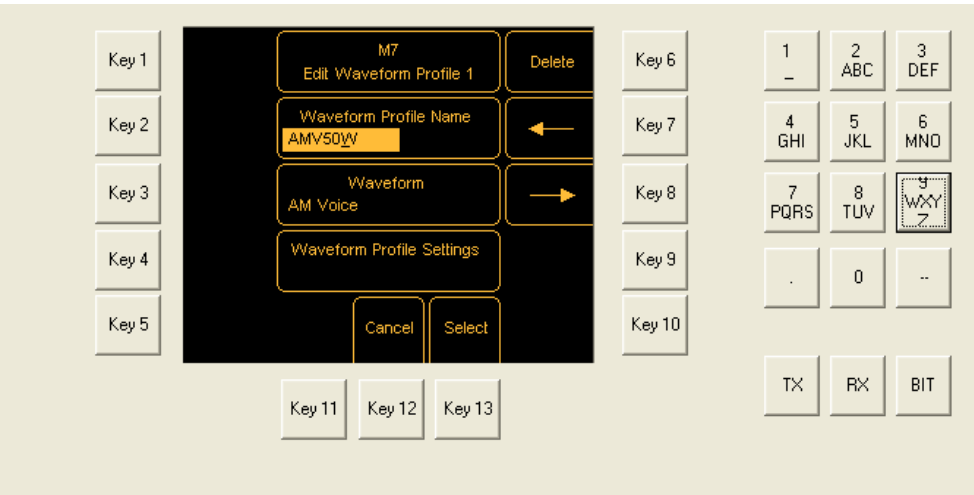

Fig 3-36 Edit Waveform Profile Name
- (3) The first parameter that can be changed is the Name. A waveform profile can have any name up to eight characters long. In this example, the default designation WP1 is being changed to 'AMV50W' as shown in Fig 3-36 (AMV50W meaning AM-Voice with 50 watt output). To change the name, press *Key 2 – Change*. The new name can be entered using the alphanumeric key pad.